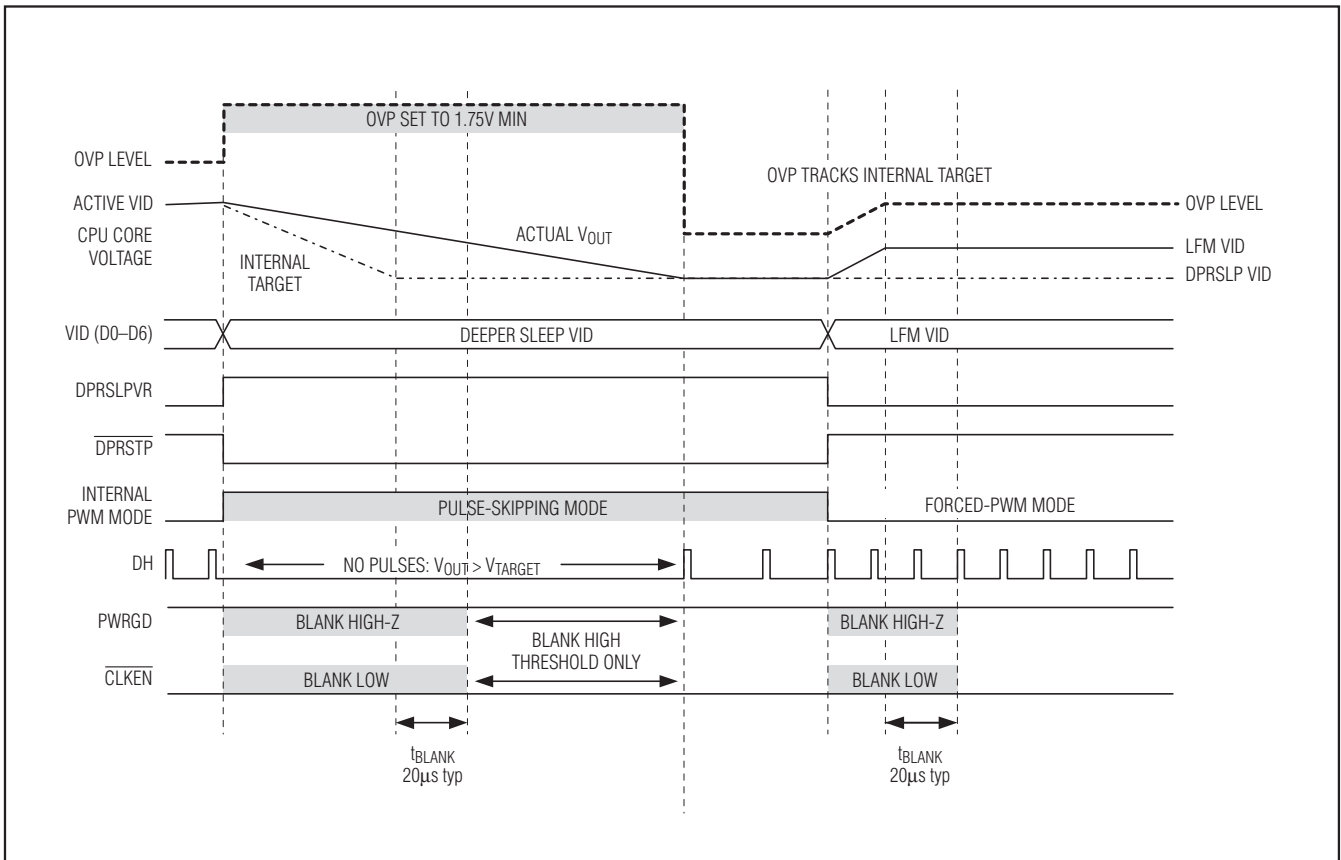

Figure 6. Standard IMVP-6 C4 Transition
- Standard C4 deeper sleep exit:** When exiting deeper sleep (DPRSLPVR pulled low) while the output voltage is regulating to the deeper sleep voltage, the MAX8796/MAX17401 immediately ramp the output voltage to the LFM DAC code provided by the processor at the slew rate set by RTIME. The controller blanks PWRGD and  $\overline{\text{CLKEN}}$  (forced high impedance) until 20 $\mu\text{s}$  after the transition is completed. See Figure 6.